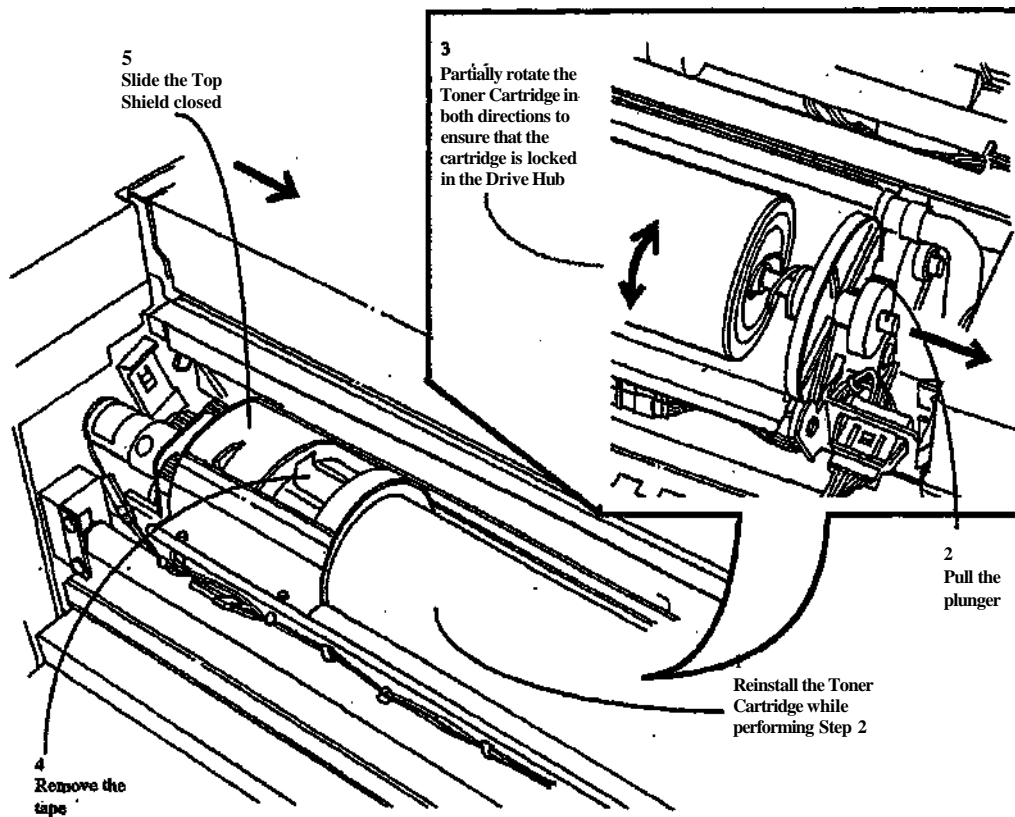

Figure 8. Reinstalling the Toner Cartridge
6. (Figure 8): Reinstall the Toner Cartridge.